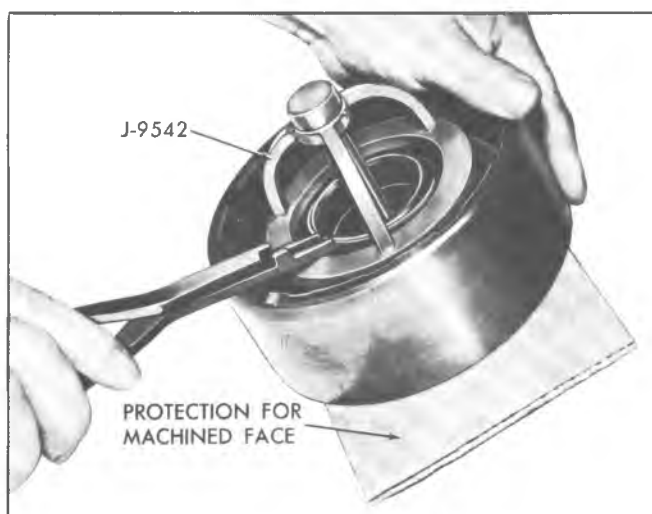

Fig. 20PG--Removing Clutch Spring Retainer Snap Ring
CAUTION: When working with the clutch drum, use extreme care that the machined face on the front of the drum (fig. 20PG) not be scratched, scored, nicked or otherwise damaged during any of the following service operations. This machined face must be protected whenever it must be brought to bear on a press or tool of any sort.
4. Remove the spring retainer using J-9542 as shown in Figure 20PG, or if using an arbor press, use J-5133 and J-7782 adapter ring. Compress the springs far enough to allow removal of the retainer snap ring; then, releasing pressure on the springs, remove the retainer and the springs.